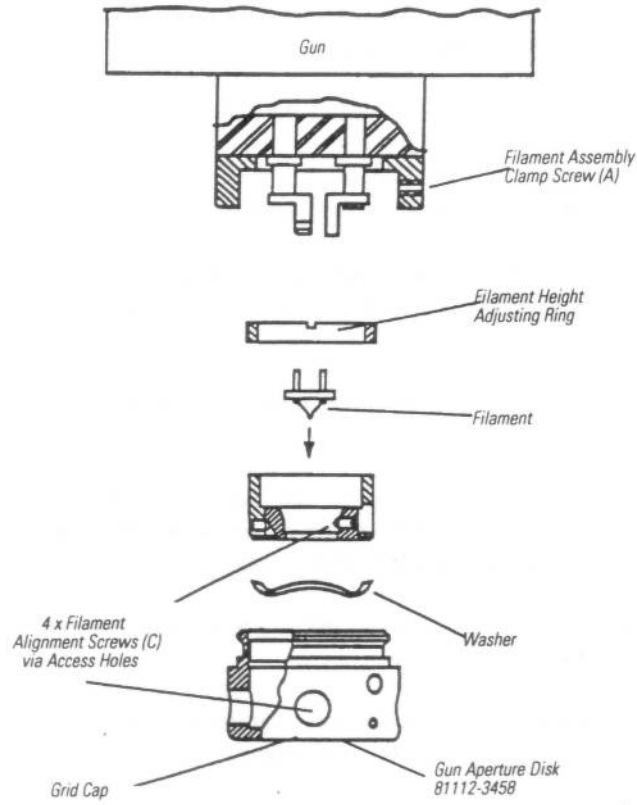

Figure 5.2 The Firing Unit
3. Loosen the three filament assembly clamp screws (see Figure 5.2) and remove the firing unit.
7. Loosen the four screws (see Figure 5.2) holding the filament into the carrier and remove the filament.